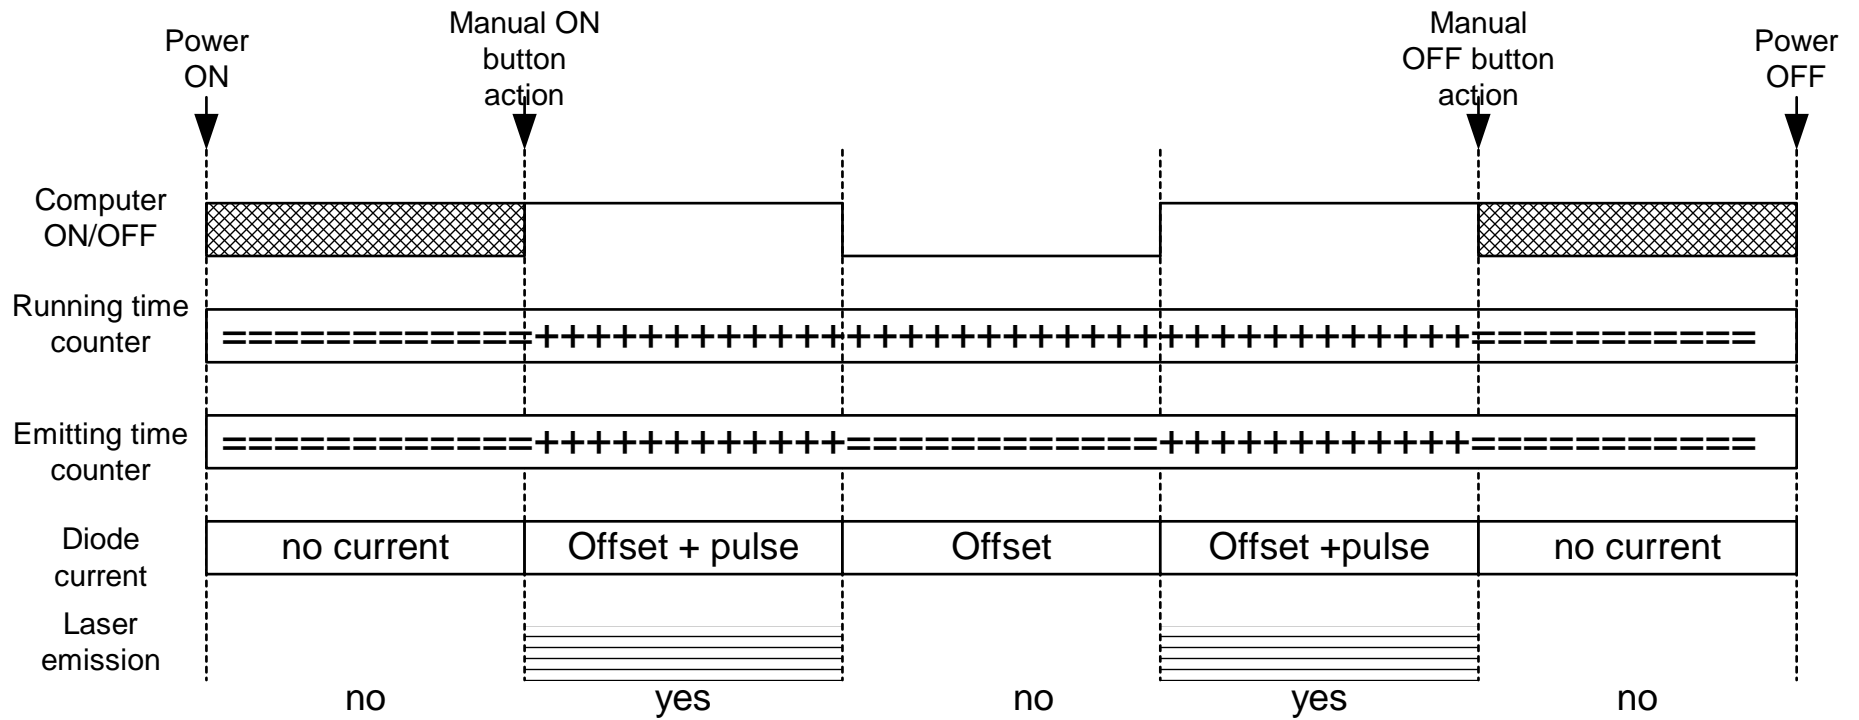

Figure 16: Chronogram for Internal Mode operation
6.2 Manual External Mode Operation (-x2z, -x3z) – fig16